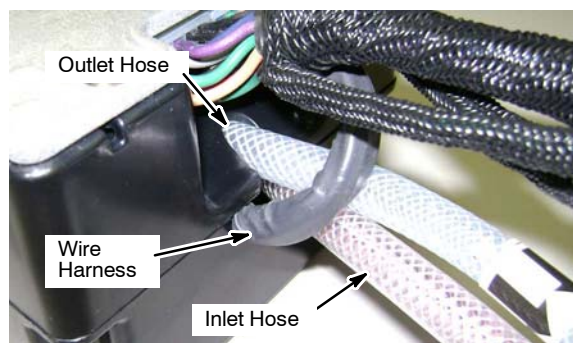

FIG. 9
- Position the 2 hoses and the wire harness as shown (Figure 9). This allows the outlet hose to come straight off the nipple minimizing the risk for potential cracking.